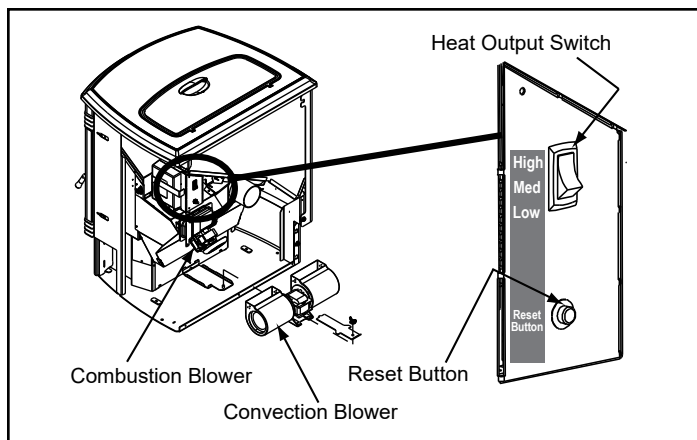
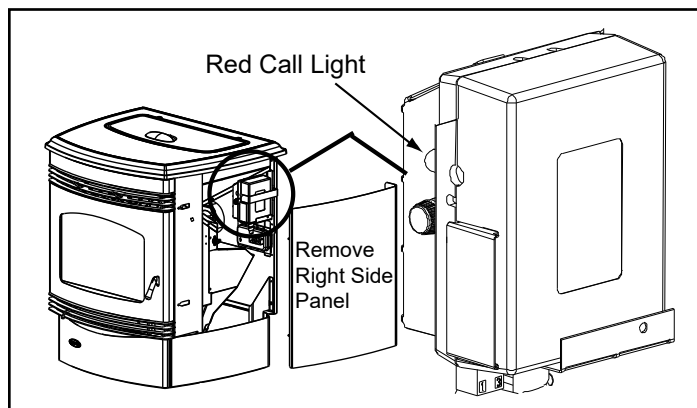

Figure 10.1
Figure 10.2
This appliance is equipped with a heat output control switch that has three settings or burn rates; low, medium and high. The appliance will turn on and off as the thermostat demands. When the thermostat calls for heat, the appliance will start up at the burn rate for which it is set. If the appliance is set at one of the lower settings, it will run quieter but take longer to heat up an area than if it were set at a higher burn rate. Regardless of the burn rate, when the area is warm enough to satisfy the thermostat, the appliance will shut off (**Figure 10.1**).
3. Locate the heat output control switch mounted on the back of the appliance in the upper right corner (**Figure 10.1**). Turn it to the "high" setting by pushing the top of the control switch in and then adjust the thermostat to its highest setting. Remove the right side panel and the red call light located to the left of the control box will be on (**Figure 10.2**). This indicates the thermostat is calling for heat.
3. Occasionally the appliance may run out of fuel and shut itself down. When this happens, the red call light will be on (**Figure 10.2 on page 10**). To restart it, fill the hopper and press the reset button (**Figure 10.1 on page 10**). When you press the reset button the red call light will go out. Release the button and the light will come back on. You should see a fire shortly. If not, follow **Starting Your First Fire** on page 10.